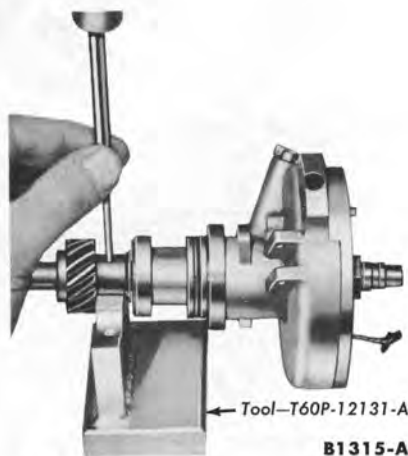

FIG. 4—Gear Pin Removal
The primary resistance wire is checked for excessive resistance as shown in Fig. 4 (Resistance Wire Test).
8. Remove the distributor from the vise. Remove the distributor cap clamps. If a solid-type drive gear pin is used, file the peened end from the pin. Drive out the pin with a punch (Fig. 4).